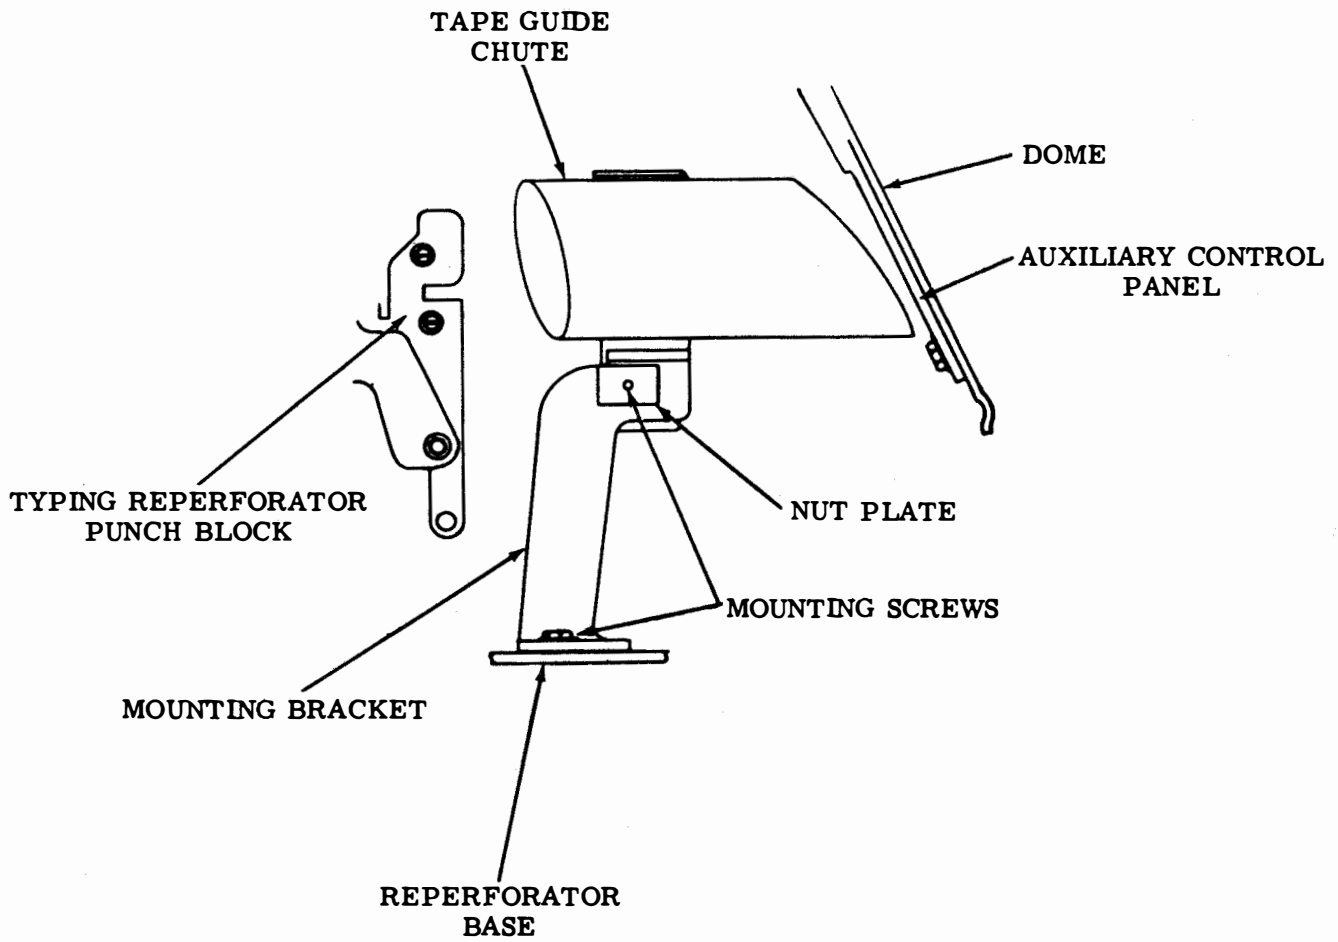

Figure 6-306. Tape Guide Chute for Auxiliary Typing Reperforator, Left Side View
(1) Refer to Figure 6-306.
(2) With top and middle dome doors open, front and rear ends of chute should align with punch block tape aperture and with hole in auxiliary control panel.
(3) To adjust: